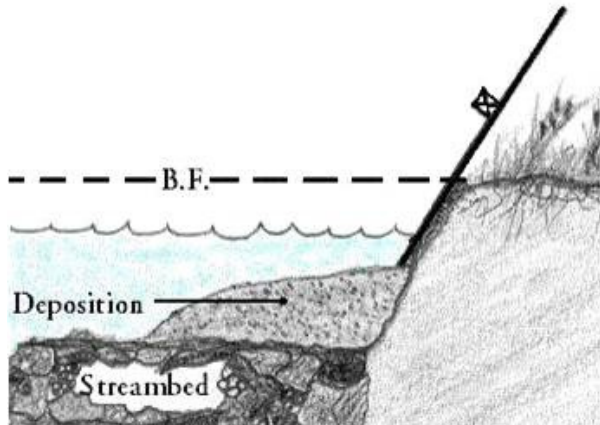

Figure 29. Begin measuring the angle from the point where the deposition and bank meet.
- On un-vegetated depositional features such as point bars, start the measurement at the point where the top of the depositional feature and streambank meet (Figure 29).